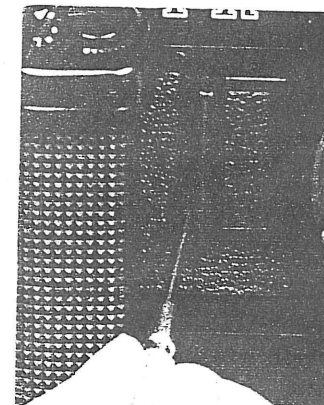

Fig. 12
1. Remove the film camera from the main unit according to "8-1, Mounting/dismounting film camera". Push the camera battery chamber cover protrusion using a thin, pointed rod such as a pincette to the right when facing camera front. The cover opens. (Fig. 12)